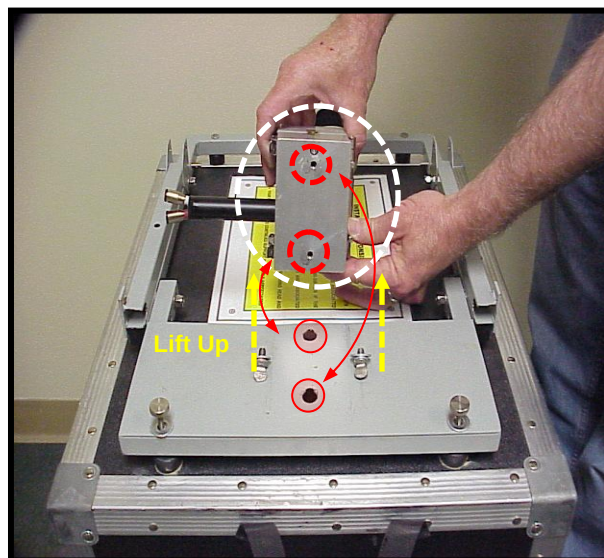

Figure 51
13.9.2 Remove Thumbscrews by Hand and separate the Blowing Head from the Shelf. **See Fig. 51.**